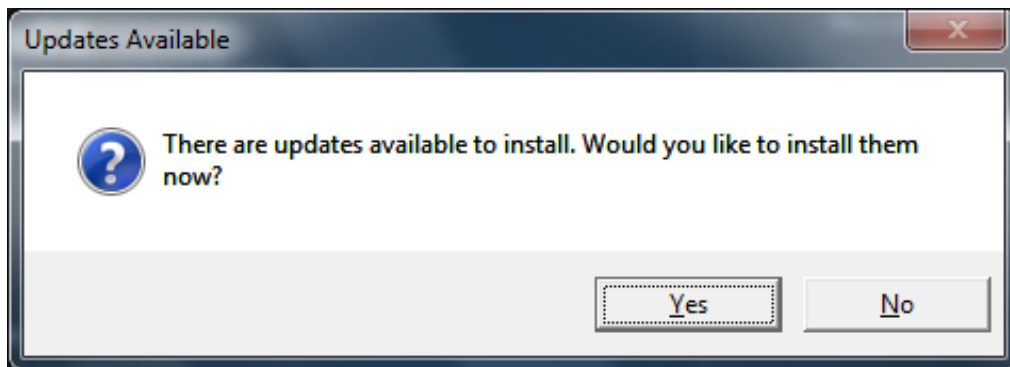

Figure 156. Update Available Window
2. Log off and then log in again. The **Updates Available** window opens, as shown in Figure 156.